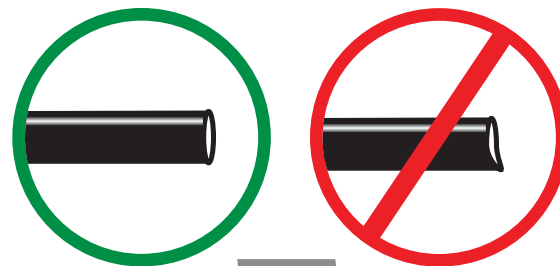

fig. 27
- a. Check the air line connection by deflating the spring and removing the line by pulling the collar against the fitting and pulling firmly on the air line. Trim 1" off the end of the air line. Be sure the cut is clean and square (see Fig. 27). Reinsert the air line into the push-to-connect fitting.
2. If the preceding steps have not resolved the problem, call Air Lift customer service at (800) 248-0892.